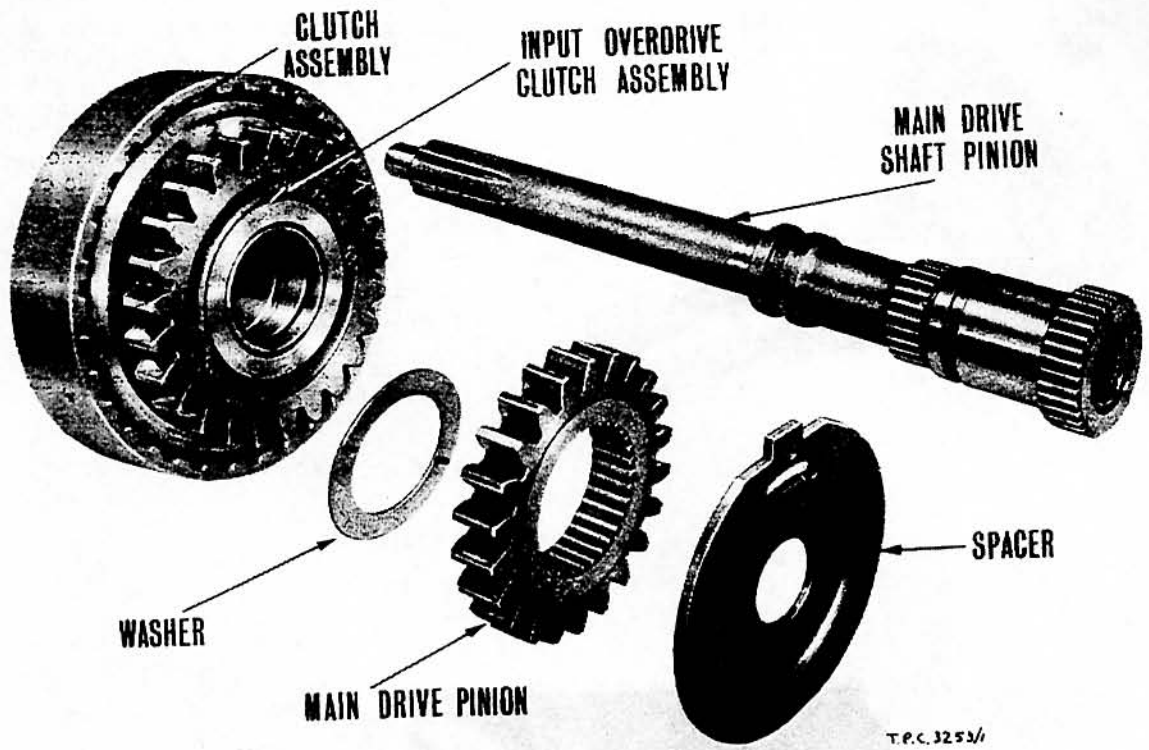

FIGURE 22. INPUT SHAFT AND CLUTCH ASSEMBLY
15. Lift out the tab located spacer from the front end of the main transmission shaft and withdraw the shaft rearwards, and lift out hydraulic clutch assembly with located thrust washer (Figure 22).